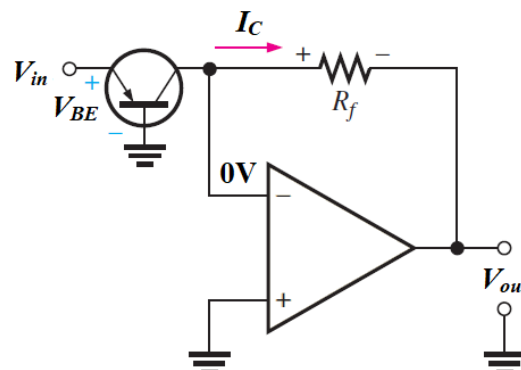

Fig. 21
An antilog amplifier is formed by connecting a transistor (or diode) as the input element as shown in Fig. 21. The exponential formula still applies to the base-emitter  $pn$  junction. The output voltage is determined by the current (equal to the collector current) through the feedback resistor.
As you can see in Fig. 21,  $V_{in} = V_{BE}$
**Example:** For the antilog amplifier in Figure 21, find the output voltage. Assume  $I_{EBO} = 40 \text{ nA}$ ,  $V_{in} = 175.1 \text{ mV}$  and  $R_f = 68 \text{ k}\Omega$ .